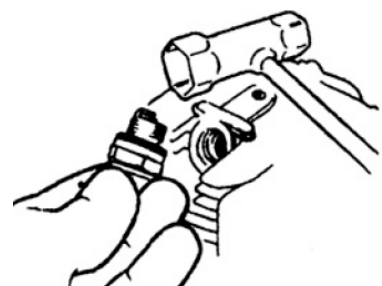

Fig.12
1. Disconnect the spark plug lead and then use the spark plug wrench to remove the spark plug (turn counterclockwise to remove). See Fig.12.